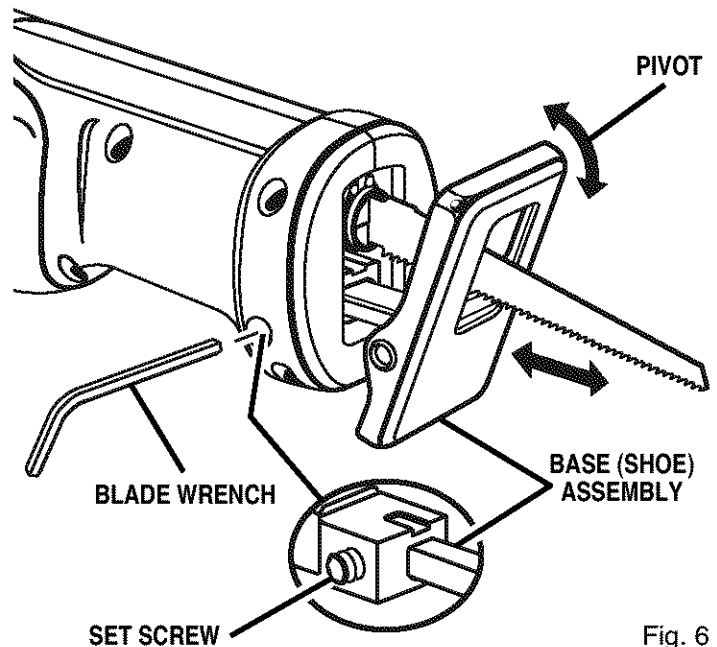

Fig. 6
See Figure 6.
- Loosen the set screw in the gear frame with the blade wrench provided with this saw. See Figure 6.